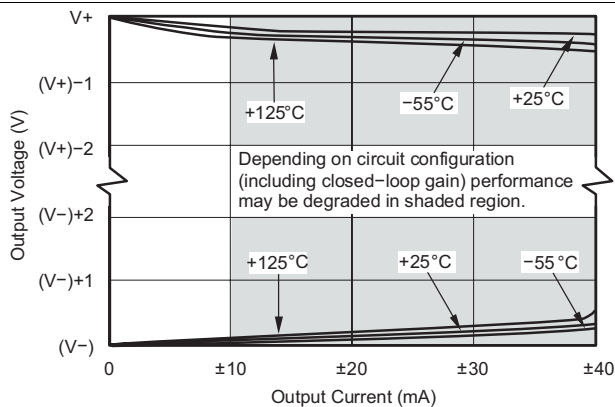
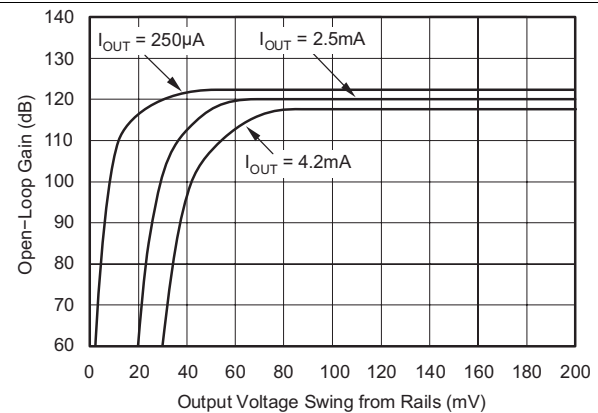

Figure 17. Output Voltage Swing vs Output Current
Figure 18. Open-Loop Gain vs Output Voltage Swing
(4) Output voltage swings are measured between the output and power supply rails.
(5) See Figure 17.
A class AB output stage with common-source transistors achieves rail-to-rail output. For light resistive loads (>10 k Ω), the output voltage swing is typically ten millivolts from the supply rails. With heavier resistive loads (600 Ω to 10 k Ω), the output can swing to within a few tens of millivolts from the supply rails and maintain high open-loop gain. See Figure 17 and Figure 18 for more information.